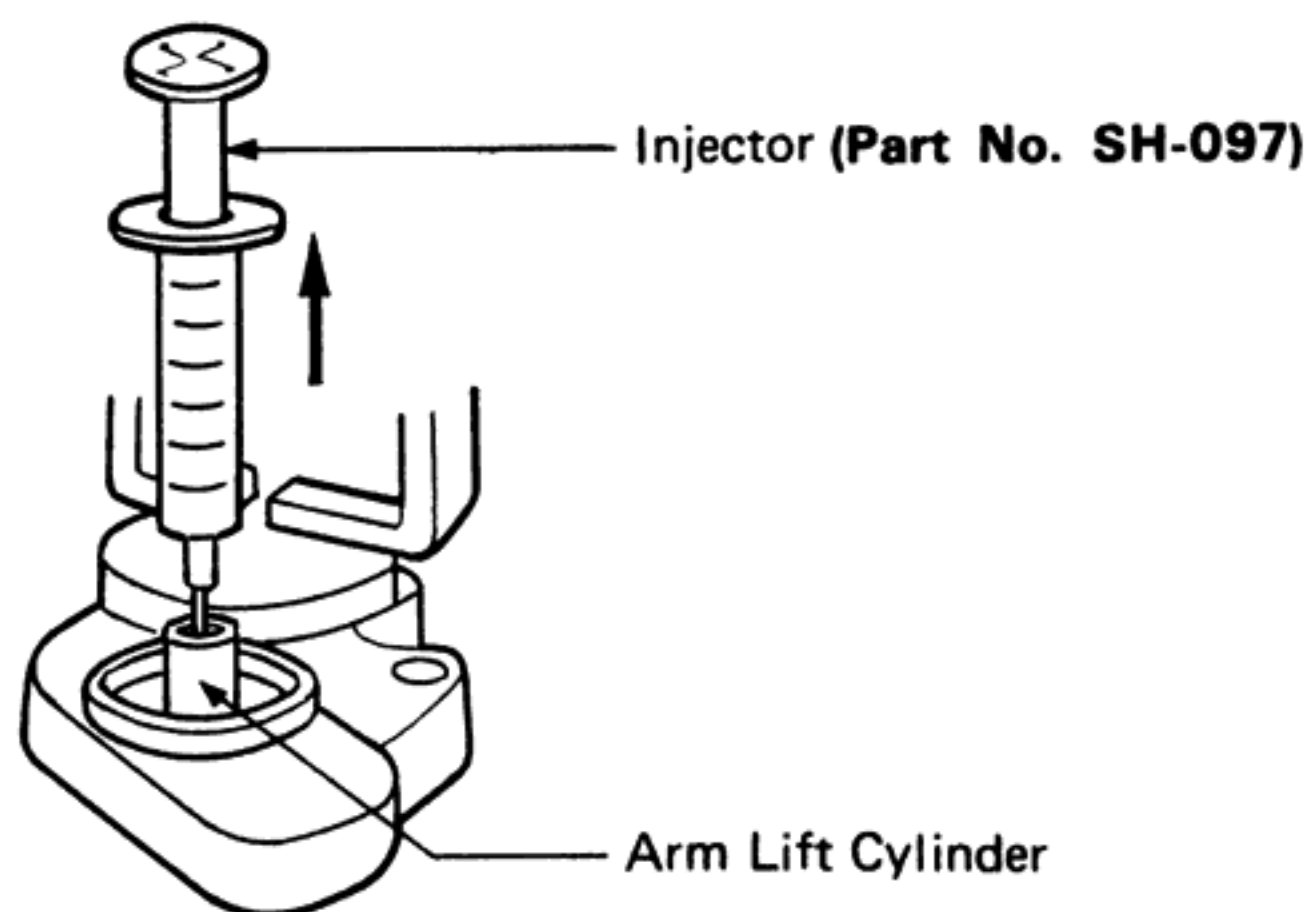

Fig. 2
- 2) Insert the needle of the injector deep into the arm lift cylinder. (Fig. 2)